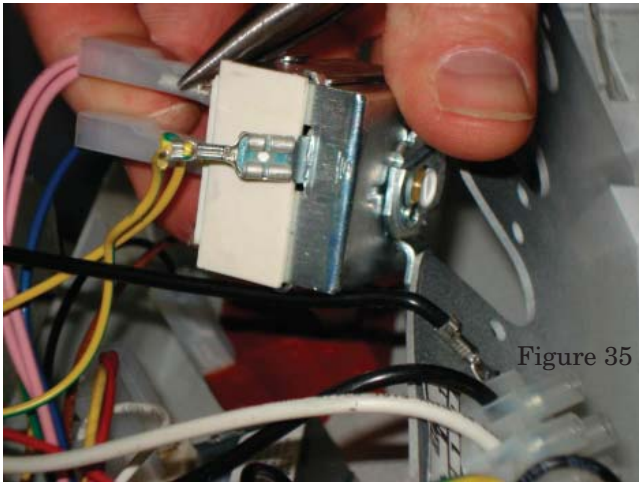

Figure 35
3. Remove the wires from the existing auto-reset water temperature limit. See Figure 35.